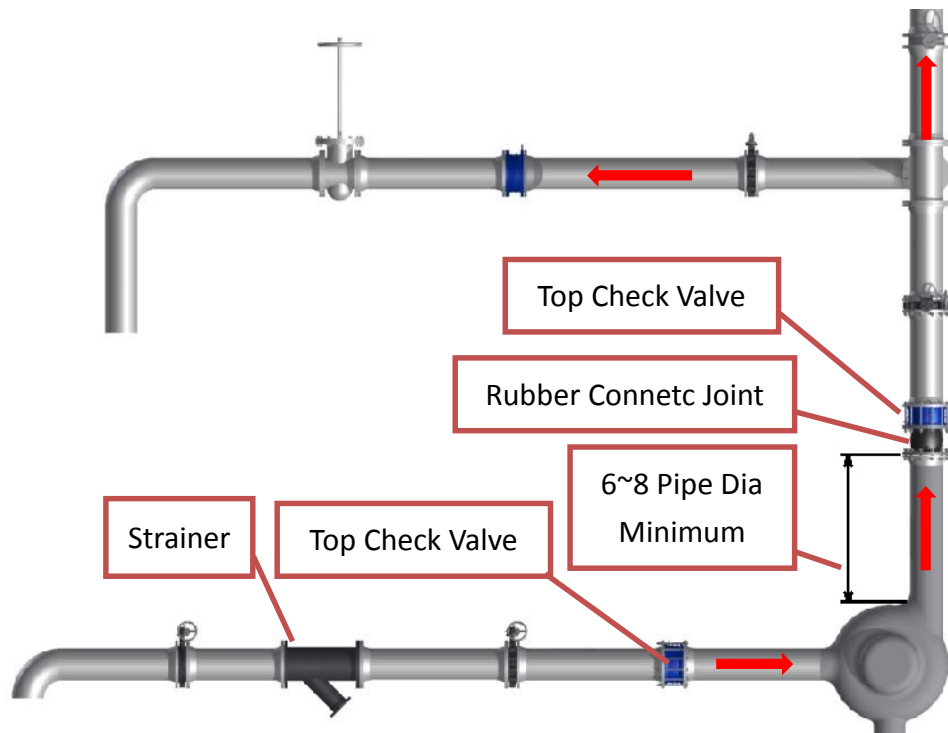

Figure 7
Step 7. A distance of 6~8 times valve diameter's should be maintained between the Top Check and pump (figure 7).